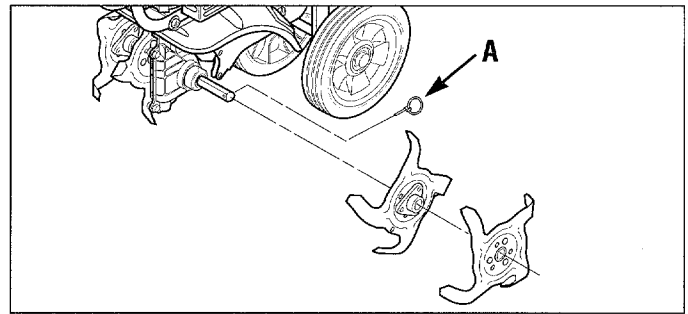

Figure 19: Remove ring lock pin (A) to take off tines.
Knowing how to remove and reinstall the tine sections will help you accomplish the following tine configurations: a) to change from the standard 9" tilling width to a narrower 6" tilling width for smaller areas; b) to swap the positions of the two inner tine sections to adapt to very stony soil conditions; c) to replace damaged or badly worn tine sections. **IMPORTANT: The ring lock pin (A, Figure 19) is under spring tension -- wear gloves when removing or replacing the ring lock pin to protect your fingers.**
- Flip open the ring (A, Figure 19) on the ring lock pin that secures either the left or right side tine sections. Pull the ring lock pin out of the tine shaft.
- If tilling in stony soil, remove the ring lock pin (A, Figure 19) from both sides of the machine. Remove both outer tine sections. Identify each section as a left or right side tine and whether it is an inner or outer section.
- Remove the ring lock pin (A, Figure 19) from both sides of the unit. Remove the old tine sections and replace them with new tine sections. (The tines are too worn if tilling takes much longer than before and soil is not being mixed thoroughly enough.) Insert the ring lock pins through the rounded side of the tine shafts and snap the ring over the shaft (see DETAIL, Fig. 6, pg. 10).